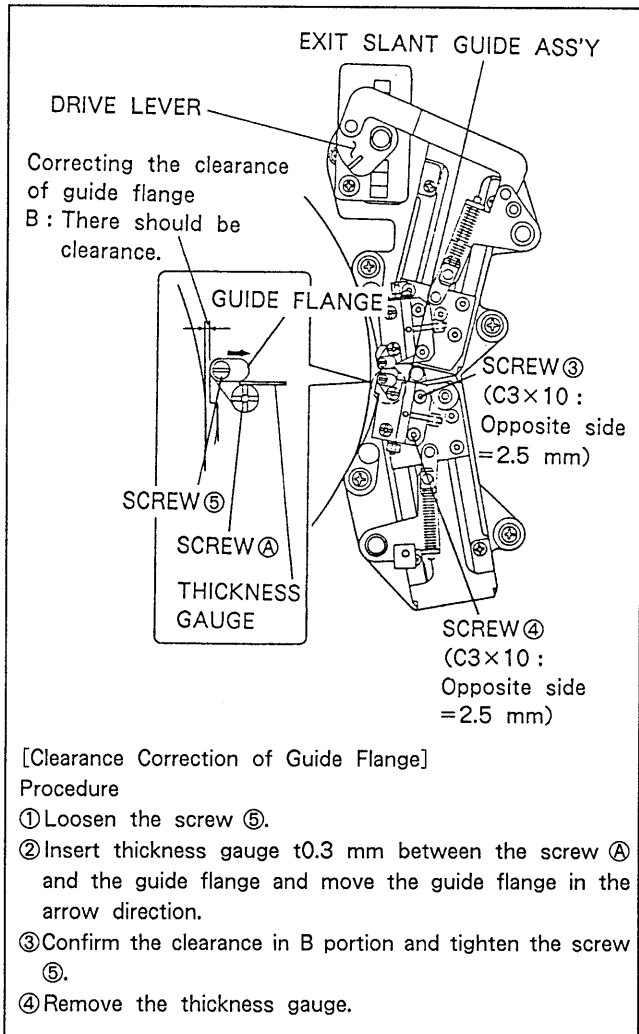

Fig. 6-5-13. Confirmation of Exit Slant Guide Ass'y Installation
8. While rotating the upper drum slowly with finger, stop the drum rotation at the position where rotary heads are most far from the exit slant guide. Rotate the drive lever using a flat blade screwdriver to close the slant guide. When closing it, take utmost care so that guide flange should not contact with upper drum and close surely. If the guide flange should have chance to contact with upper drum, loosen the guide flange's screw ⑤ and correct it mounting position. (As for procedure, refer to Fig. 6-5-13.)
9. Tighten the screw ③ surely. (The screw ④ is in the temporary tightened condition.)